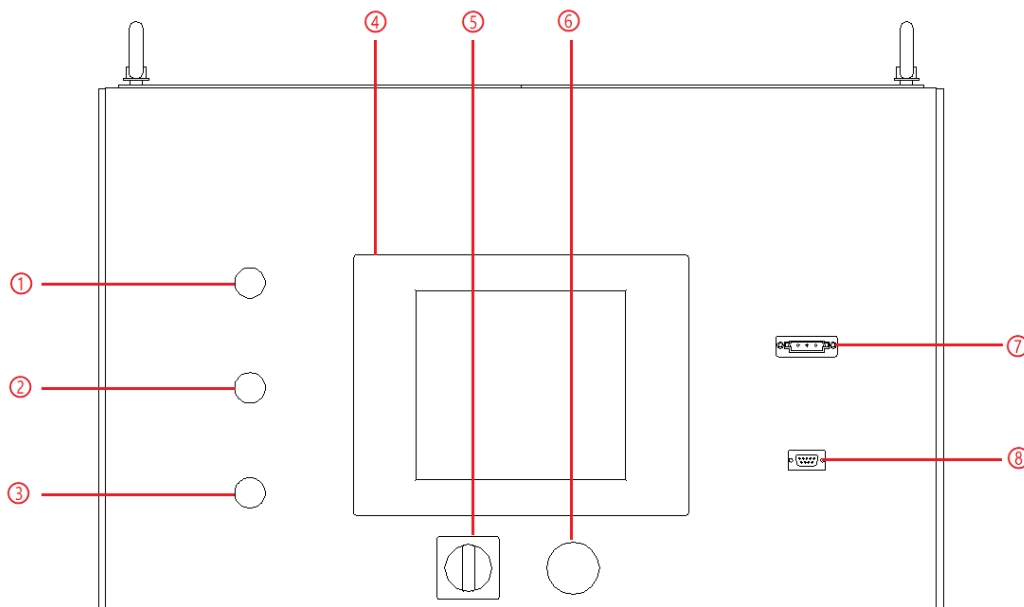
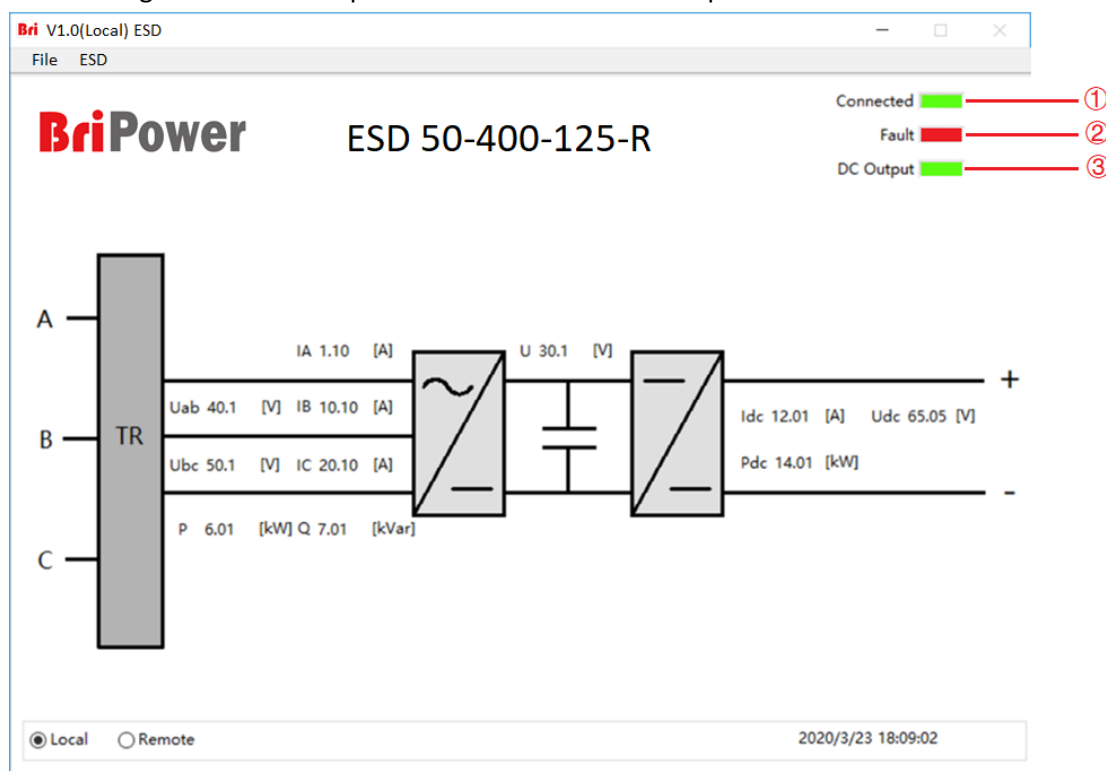

Figure 3-3 Front Panel
Figure 5-1 Main panel
Turn clockwise to close the control switch on the front panel (figure 3-3 ⑤), the power supply is standby.
ESD series provides GUI software, which is installed on the front touch screen using the windows OS. (the software can also be installed on the control PC connected to the power supply). A few seconds after the power supply is initialized, the control unit and touch screen begin to work, the power supply is standby. If the power supply communication is normal, the white light (Figure 3-3①) and the “connected” green light (Figure 5-1①) is always on. All functions and parameters can be accessed through the TFT-Touch panel or GUI software to set up and run.